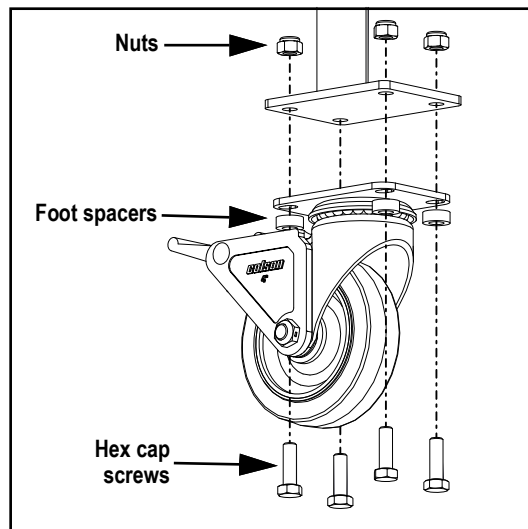

Figure 2-1. Caster Installation
1. Install four 5/16 in hex cap screws through the foot spacers and caster plate into the cart leg mount plate (see Figure 2-1).